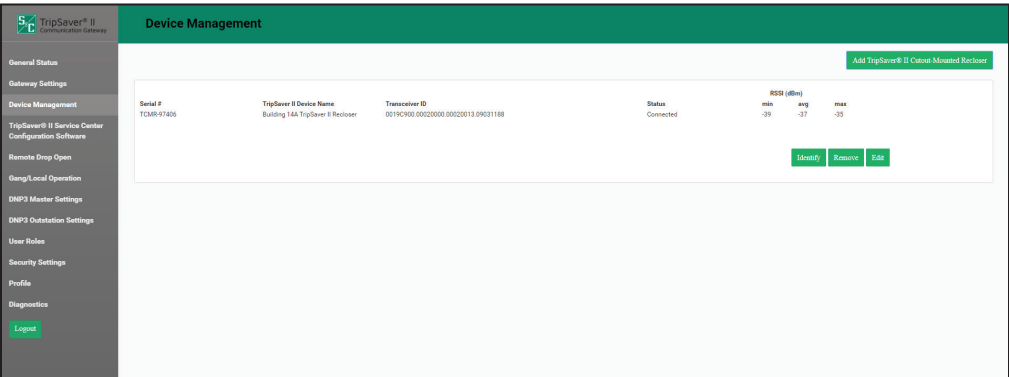

Figure 11. The *Device Management* screen after pairing a TripSaver II recloser.
- STEP 7.** Click on the **OK** button. It will take between one and 5 minutes for the communications gateway to connect to the TripSaver II recloser. The recloser will appear on the *Device Management* screen after the screen is refreshed using the browser’s **Refresh** button. See Figure 11.